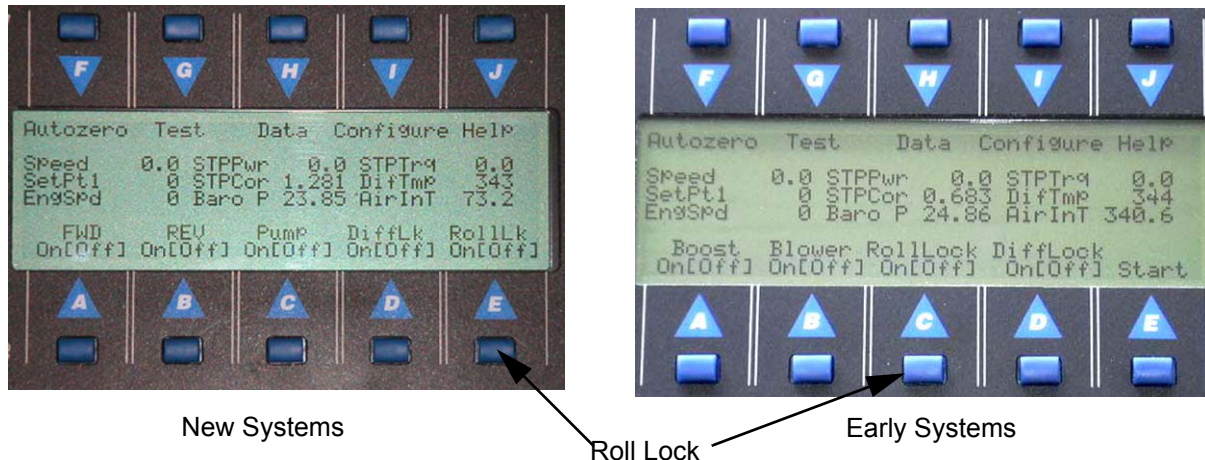

Figure 6-2 AutoDyn Main Operation Screen
1. Lock the rolls using the “Roll lock” command on the handheld controller (Figure 6-2).